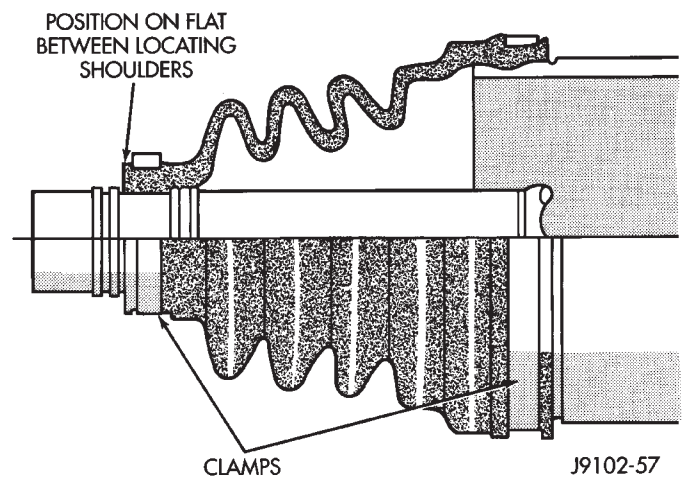

Fig. 6 Boot Retaining Clamp Locations
- (1) Remove axle driveshaft from vehicle.
- (2) Remove outer C/V joint.
- (3) Remove outer C/V joint small clamp and remove boot (Fig. 6).
- (4) Remove inner C/V joint boot clamps and remove boot.
(1) Clean the C/V joints and shaft of all old grease and foreign matter.
(2) Slide the inner C/V joint boot up the shaft and insert the lip located within the small-diameter end of the boot into the shaft groove (Fig. 6).
(3) Retain the small-diameter of the boot on the shaft with a ladder-type clamp in the boot groove (Fig. 6). Verify that the boot and lip are properly positioned on the intermediate shaft. Position the clamp locating tabs in the slots and tighten the clamp.
(7) Insert the small lip into the locating groove in the interconnecting shaft.
(8) Retain the small-diameter of the boot on the shaft with a ladder-type clamp in the boot groove (Fig. 6). Verify that the boot and lip are properly positioned on the intermediate shaft. Position the clamp locating tabs in the slots and tighten the clamp.